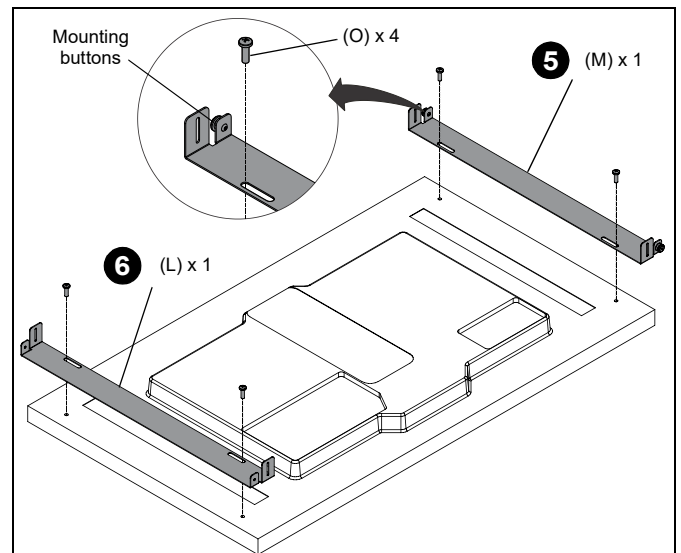

Figure 8
- Install upper interface bracket (M) to top edge of monitor using two M8 x 25 mm screws (O). (See Figure 8)
- Install lower interface bracket (L) to bottom edge of monitor using two M8 x 25 mm screws (O). (See Figure 8)